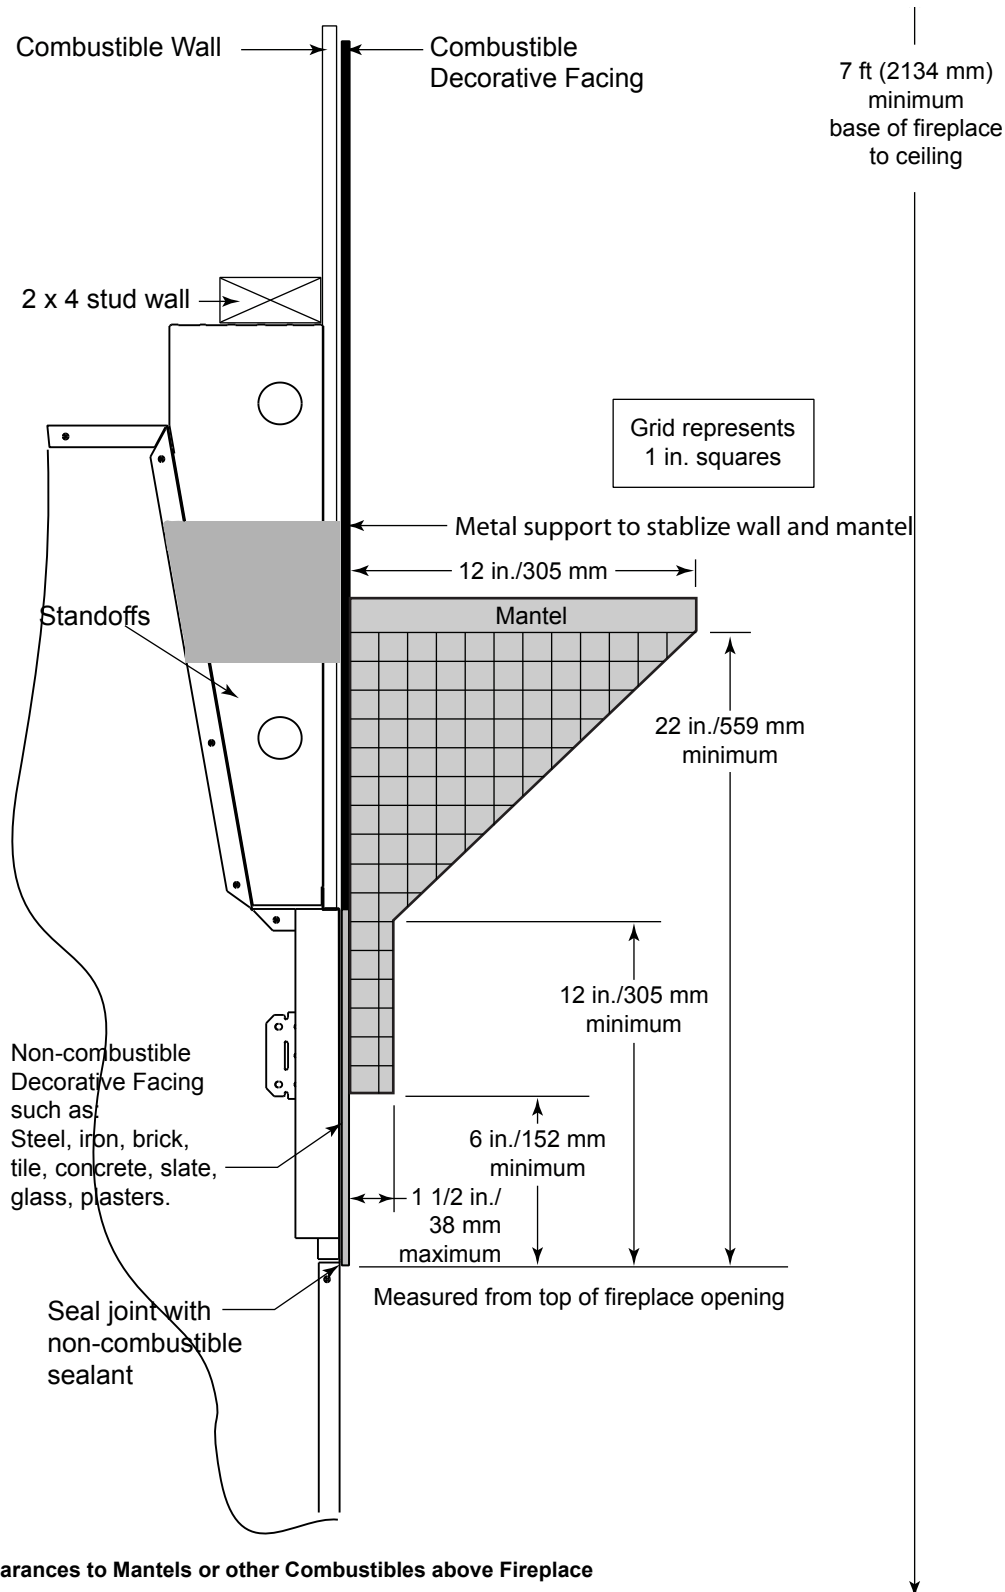

Figure 12.6 Clearances to Mantels or other Combustibles above Fireplace
- Refer to the shaded area of Figure 12.6 for the location and dimensions of a combustible mantel.